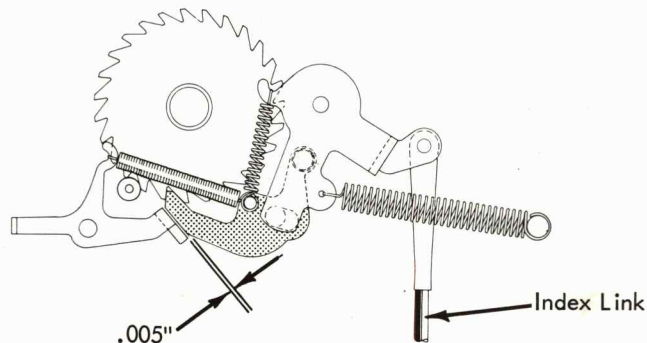

FIGURE 154. Platen Overthrow Stop
4. Platen Overthrow Stop - With the index cam rotated to its high point, adjust the platen overthrow stop to clear the index pawl by .005" (Fig. 154).